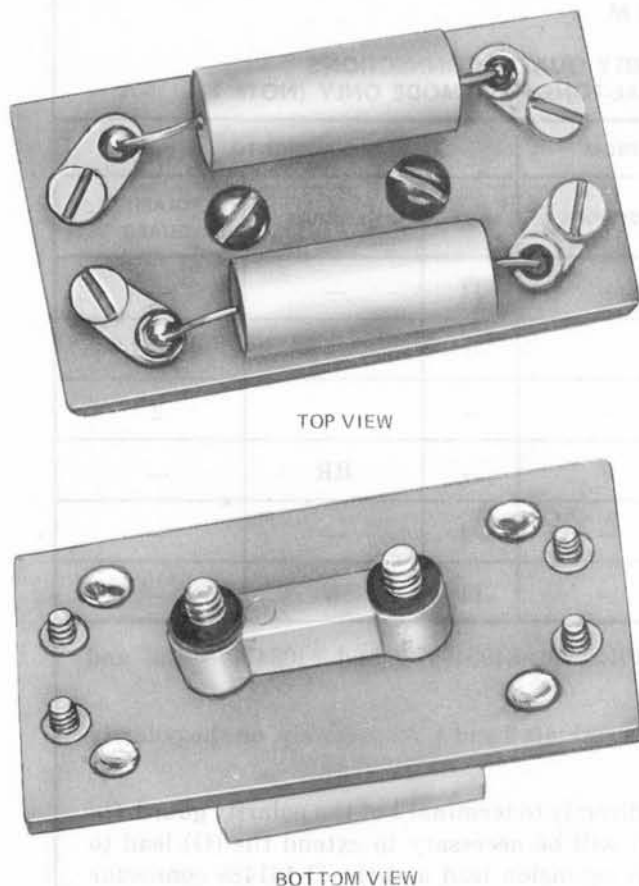

Fig. 37—840362024 Capacitor Board Assembly
(4) Install the 840362024 capacitor board assembly shown in Fig. 37 in one of the following ways: